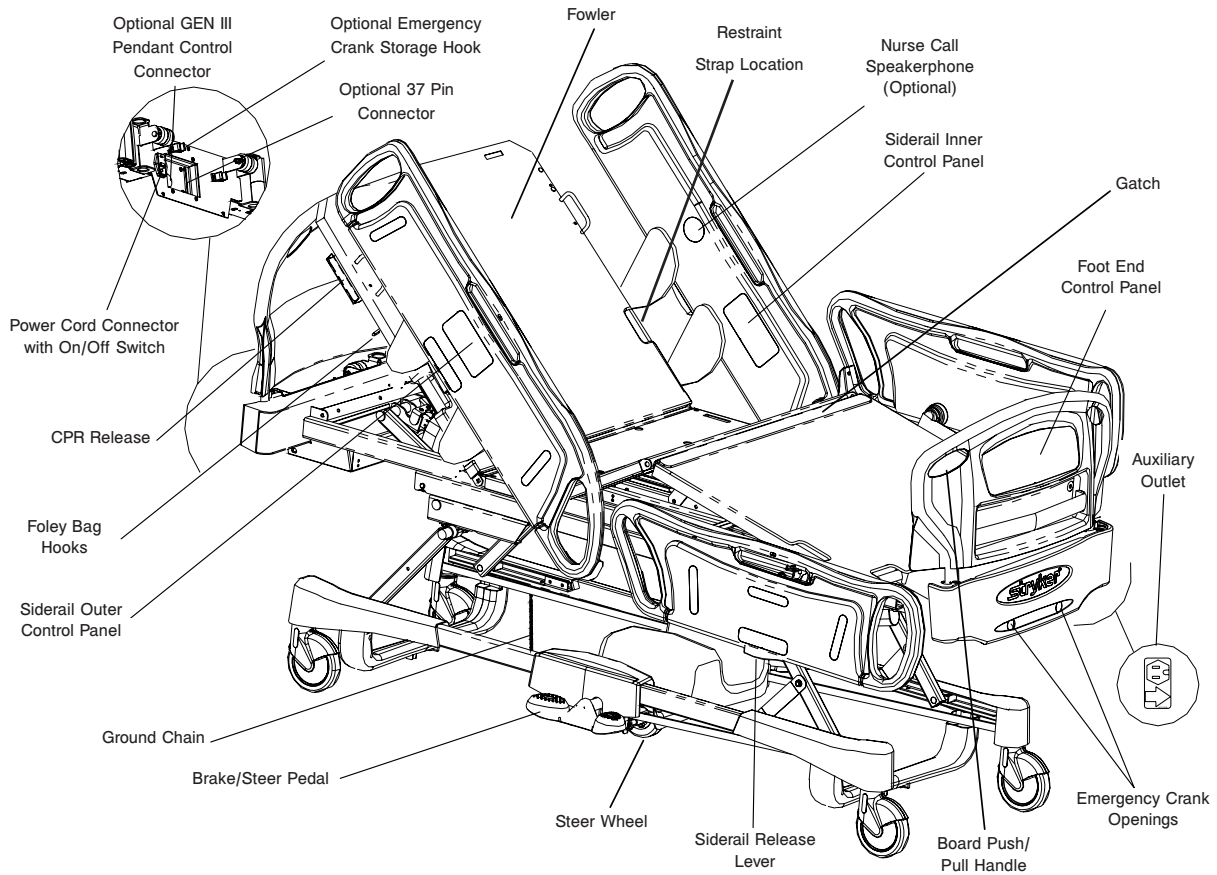

Figure 1.9
- Make sure that the ground chain is in place, intact and it's touching the floor (see Figure 1.9, page 1-7).